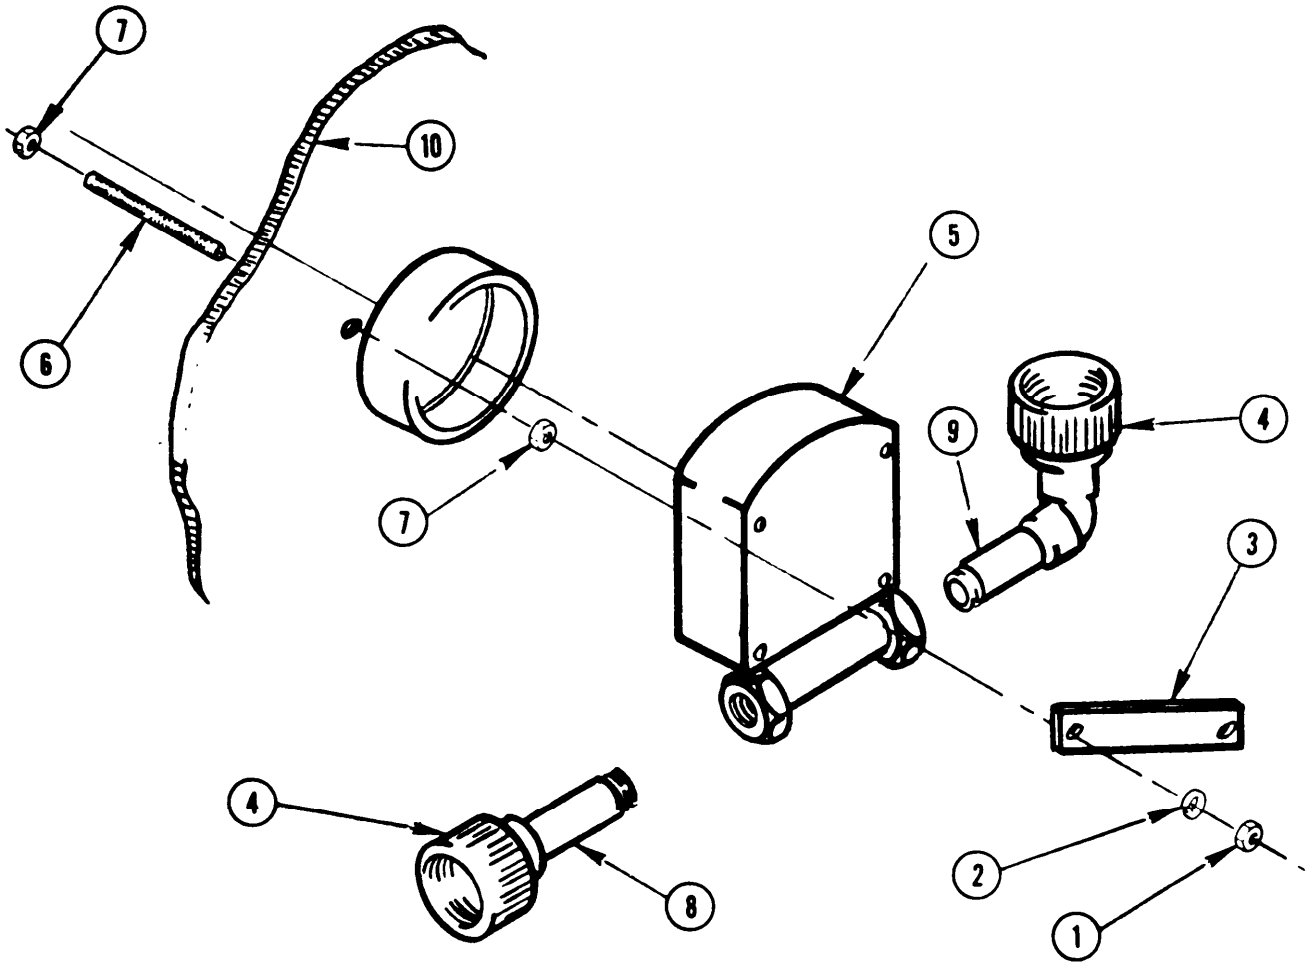

Figure 2-79. Raw Water, Backwash Water, and Brine Water Flowmeter (USMC)
c. Removal. (Figure 2-79) (USMC)
- (1) Loosen two unions (4) without removing the two meter coupling nuts or separating the unions.
- (2) Remove nuts (1), lockwashers (2), and mounting bracket (3).
- (3) Separate the unions (4).
- (4) Remove the meter (5) with union (4), nipple (8), and piping (9) still attached.
- (5) Do not remove stud (6) or nuts (7) from panel (10).
- (6) Remove nipple (8) and piping (9) from meter.
- (1) Install pipe assembly (9) to meter (5).
- (2) Install nipple (8) to meter (5).
- (3) Locate mounting block (6), meter (5), and mounting bracket (3) on panel (10).
- (4) Insert four screws (7) through panel (10), mounting block (6), meter (5), and mounting bracket (3) .
- (5) Install four lockwashers (2) and four nuts (1) to mounting screws (7) finger-tight.
- (6) Connect two pipe unions (4) to ROWPU piping.
- (7) Tighten four mounting nuts (1).
- (8) Check all pipe fittings for leaks.
h. Installation. (Figure 2-79) (USMC)